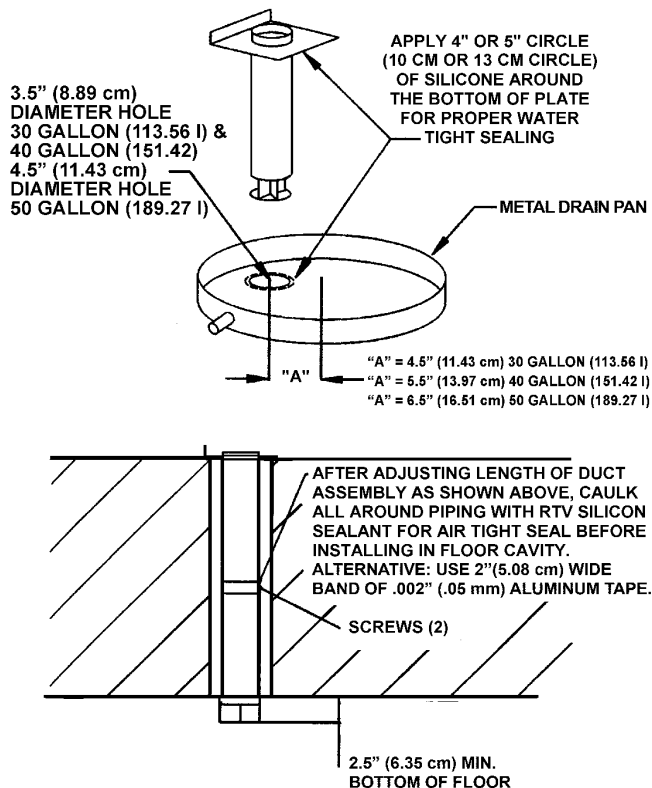

FIGURE 5.
1. To locate the position of the 3 1/2" (8.89 cm) or 4 1/2" (11.43 cm) hole to be cut in the floor, see Figures 5 and 6.